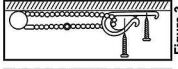

Figure 3
- * Position the chain tension device to the wall (frame) in line so that the chain forms a tight loop as shown on figures 3. Ensure loop is not loose but, has minimal tension.
- * Screw the chain tension device with screws into the wall or window frame as shown on figures 3 & 4.